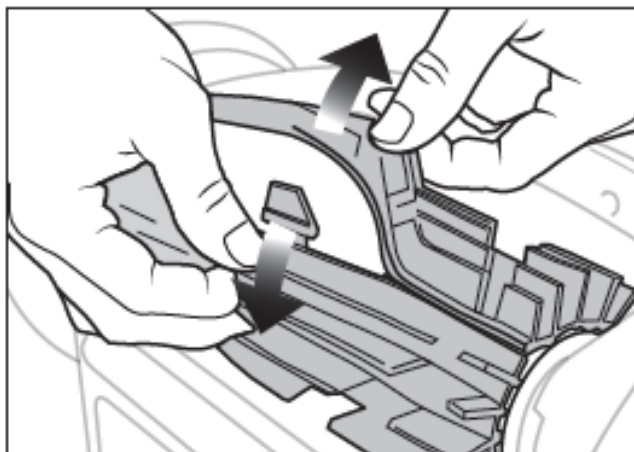

Figure 16. Undo the Tabs of the Brush
1. Separate the edges of the brush and undo the tabs. Remove the worn brushes. (FIGURE 16)